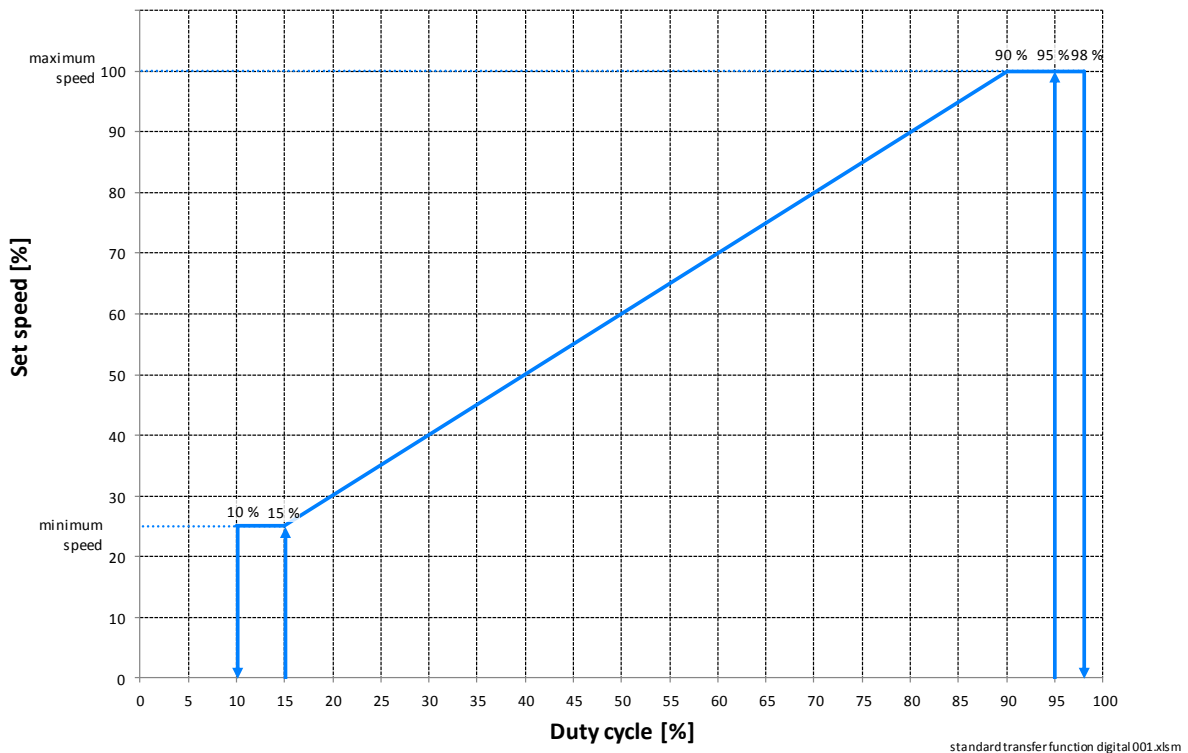
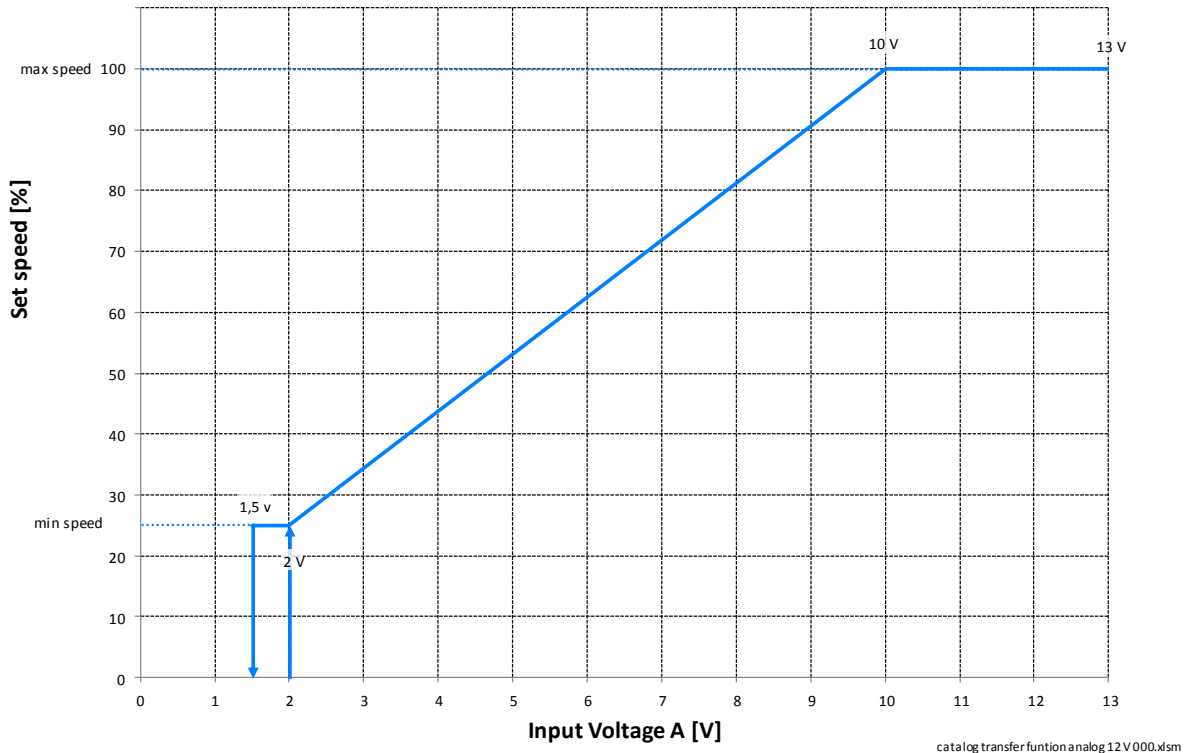

Figure 11: Digital control: transfer function PWM input
Figure 12: Analog control: transfer function analog input 24 V version
The Drive mode (see Table 9) changes accordingly to the control input duty cycle on pin PWM* / E* (see Figure 11) and the voltage level on analog input A (see Figure 12).
- if the PWM duty cycle on pin PWM* / E* has a value where the Drive is asked to run (see Figure 11 and chapter 9.4) and the PWM duty cycle value is valid according to the chapter 9.3 or
- if the analog signal on pin analog input A has a value where the Drive is asked to run (see Figure 12 and chapter 9.5).
The speed is set according to Figure 11: Digital control: transfer function PWM input and chapter 9.4.
The speed is set according to the Digital control: transfer function PWM input (see Figure 11).
Based on this duty cycle definition the transfer function PWM input is shown in Figure 11.
The transfer function analog input is the relation between the Drive speed and the duty cycle on the pin analog input A (see Figure 12).